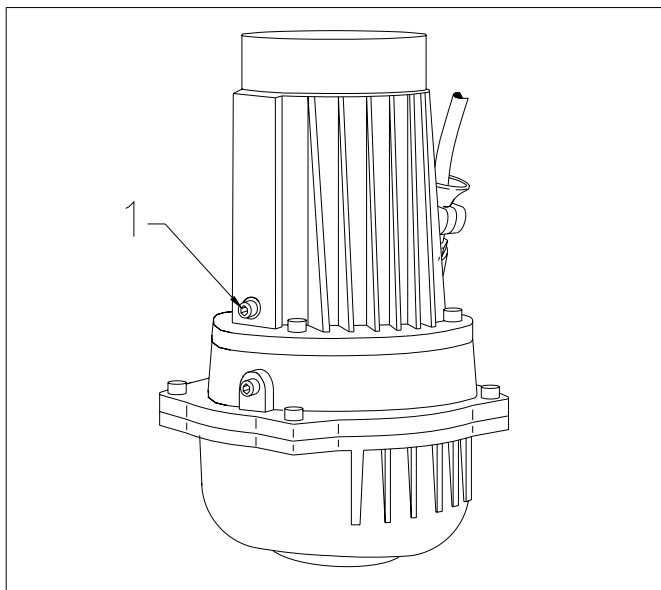

Fig. 7.11
Unscrew the inspection plug of the motorhousing. This plug is found at the opposite side of the cable entries (see Fig.7.11 pos 1).